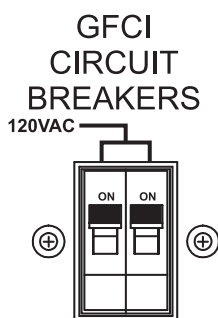

Figure 67. GFCI Circuit Breakers (ON)
13. Place the **GFCI circuit breakers** in the **ON** position (Figure 67).